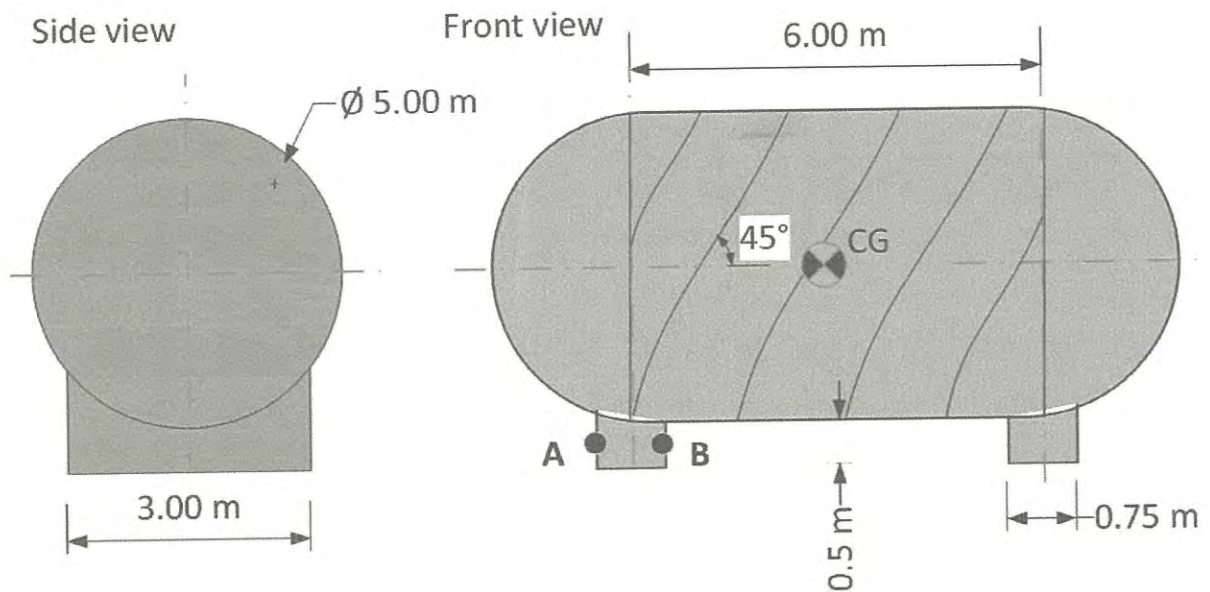

Figure Q6
- Q6** A pressure tank is supported by two cradles as shown in **Figure Q6**. One of the cradles is designed so that it does not exert any longitudinal forces on the tank. The cylindrical body of the tank has 5.a m outer diameter and is fabricated from a 12 mm steel plate by butt welding along a helix that forms an angle of $4b^\circ$ with transverse plane. The end caps are spherical and have a uniform wall thickness of 10 mm. The gage pressure is 1.c MPa. Parameter a, b, and c are given by: